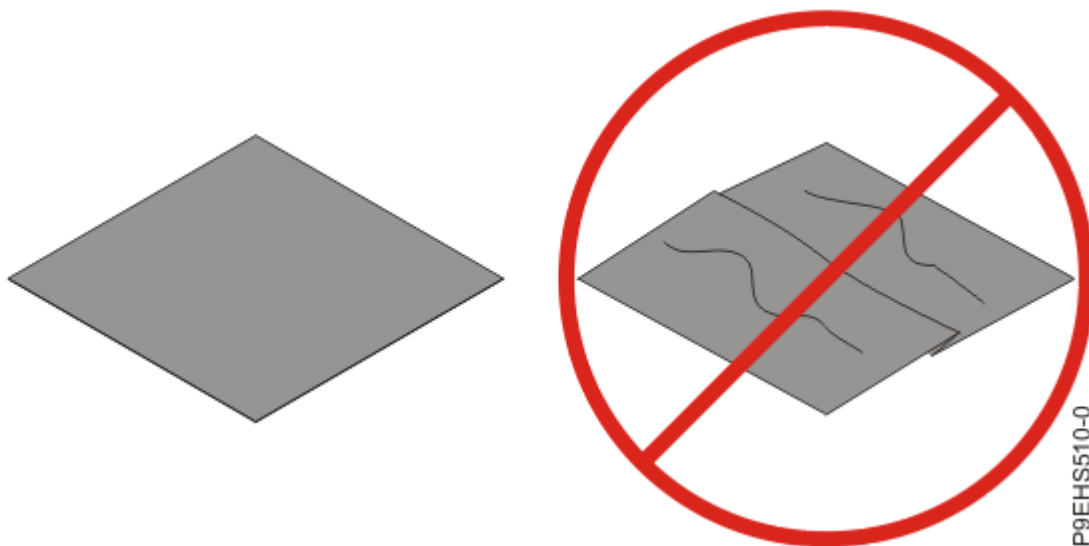

Figure 25. Inspecting the thermal interface material
4. Inspect the thermal interface material (TIM) for visible signs of damage, as shown in Figure 25 on page 28.